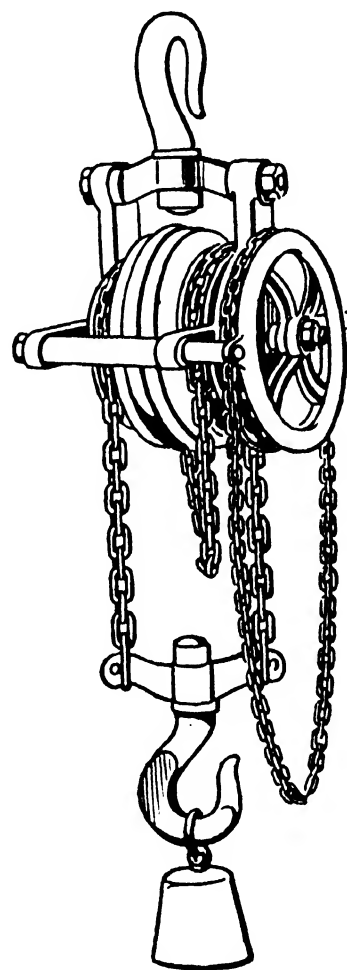

FIG. 16.—Chain-blocks,
**The Moore Block.**—On the Moore chain-blocks the guides for the hand chain are rigidly bolted to the body of the block that houses the gearing; also the hand chain is independent of the load carrying ones (a feature that is common to all the better types of blocks), and therefore the operating of them is simplified. The Moore blocks are cheap and give good service. Short in the overall, and comparatively light in weight, they are, without doubt, very popular with structural erectors; the illustration (Fig. 16) is of these blocks.